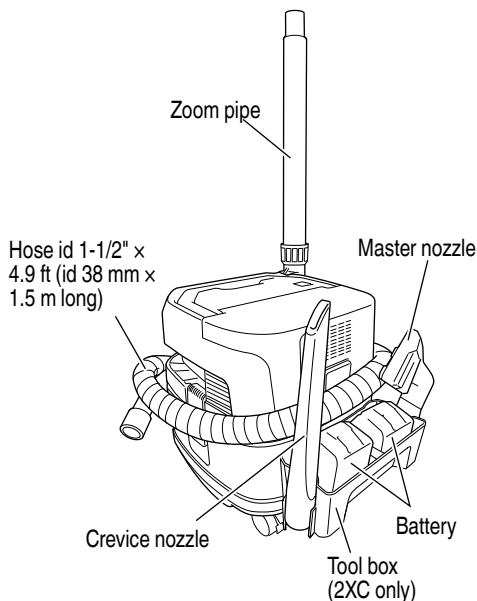

Fig. 26
(5) When the appliance is stored (Fig. 26)